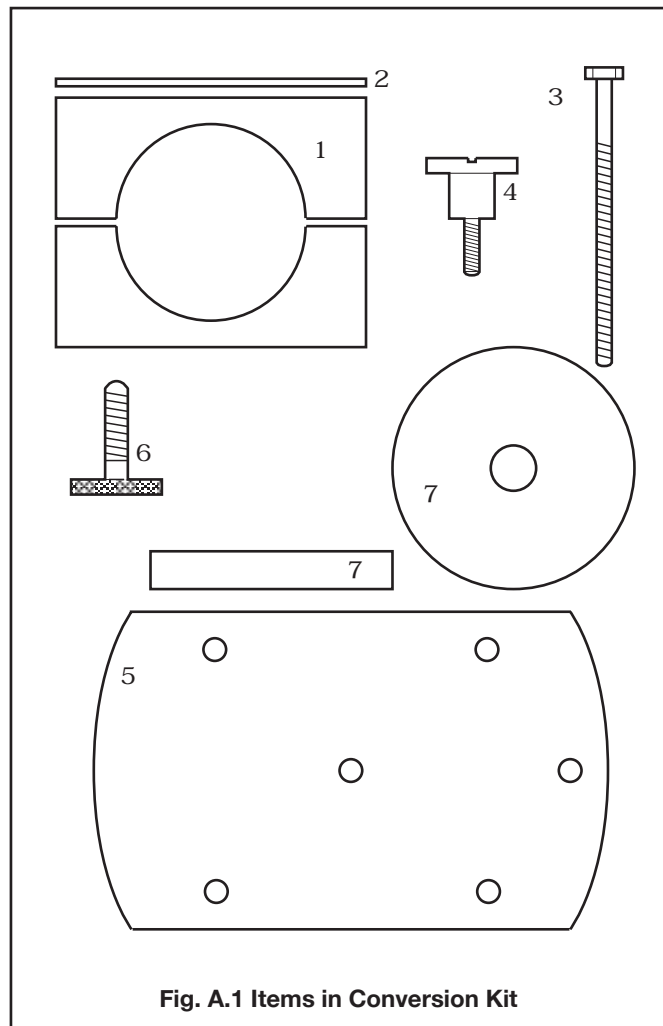
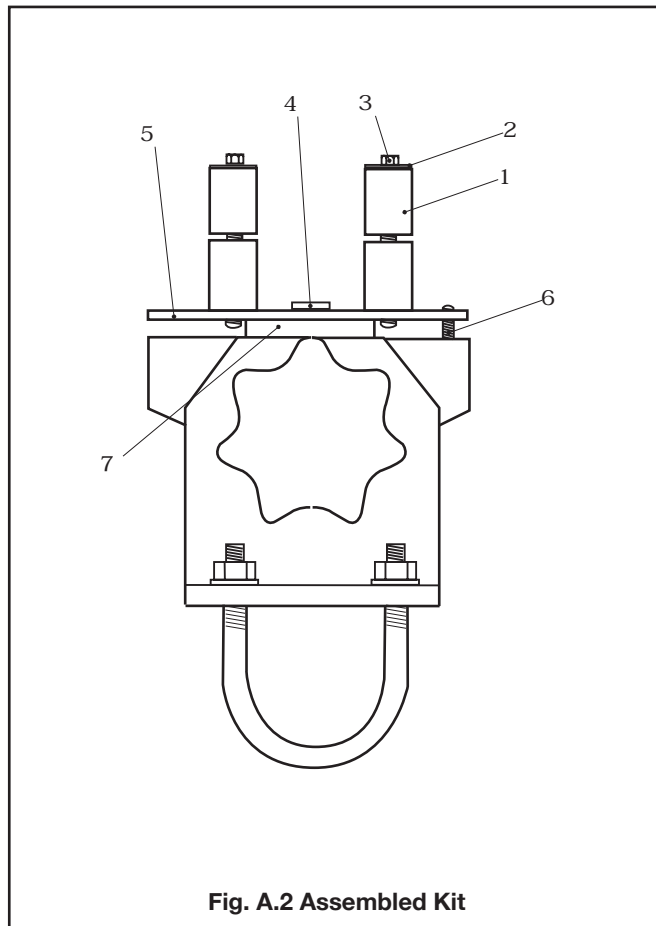

Fig. A.1 Items in Conversion Kit
Fig. A.2 Assembled Kit
A1 Kit Parts List – Fig. A.1
A2 Conversion Procedure – Fig. A.2
- 2) Assemble the items from the conversion kit shown in Table A.1 and Fig. A.1 on to the clamp base plate – see Fig. A.2.